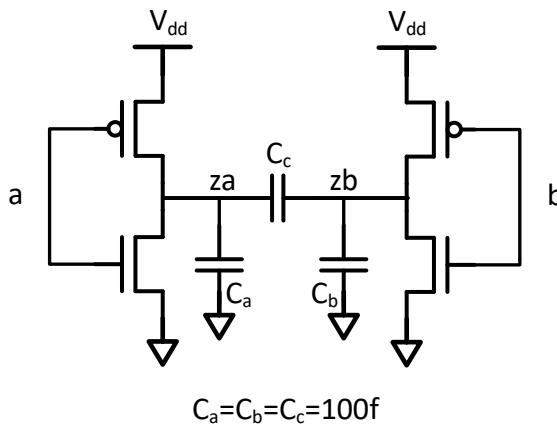

Figure 1b
- b. Consider Fig. 1b below: Assume that output resistance of the inverters is driving za are $1\text{k}\Omega$. Assume worst case conditions for the circuit driving zb so that the delay between za and zb is as high as possible. What is the worst case delay for the $a \rightarrow za$ transition.
- c. Consider Fig. 1b below: Assume that output resistance of the inverters is driving za are $1\text{k}\Omega$. Assume best case conditions for the circuit driving zb so that the delay between za and zb is as low as possible. What is the best case delay for the $a \rightarrow za$ transition.